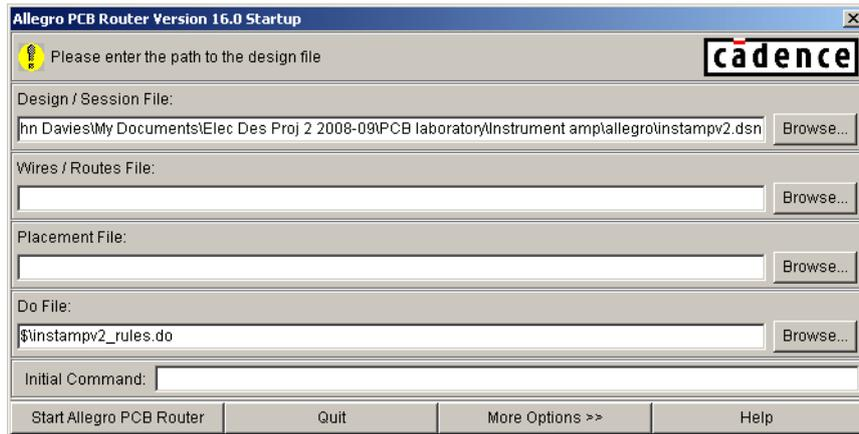

Figure 14. Startup dialogue box for importing a design into SPECCTRA.
2. Start SPECCTRA for OrCAD from the Windows Start menu. You will be presented with a fairly complicated dialogue box, shown in figure 14. Use the Browse... buttons to open the following two files.